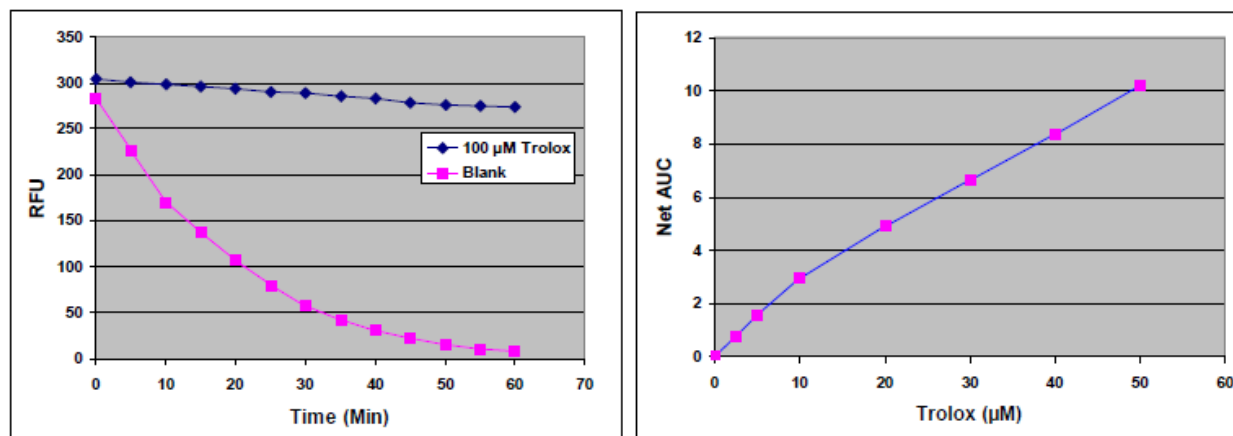

Figure 1: ORAC Activity Assay Calibration Curve.
3. Graph the Net AUC on the y-axis against the Antioxidant Calibrator concentration on the x-axis (see Figure 1)
4. Calculate the $\mu\text{Mole Trolox}^{\text{TM}}$ Equivalents (TE) of unknown sample by comparing the calibration curve. Results (ORAC value) may be expressed as TE per L or g of sample.